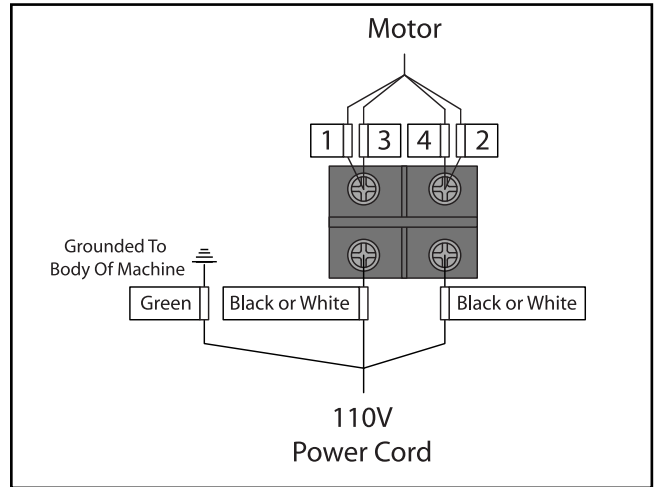

Figure 28. G0518 110V wiring.
4. Follow the wiring diagram in **Figure 28** to wire the Model G0518 for 110V.